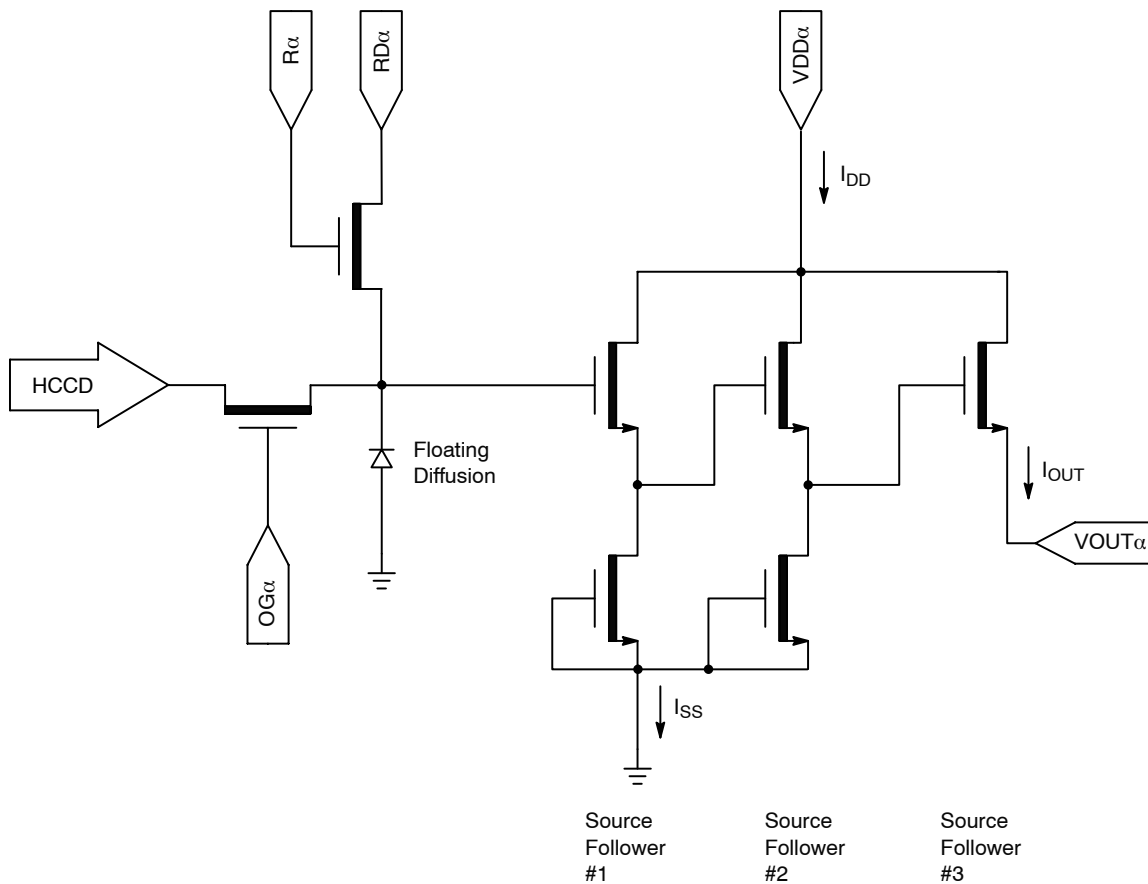

Figure 17. Output Amplifier
- The maximum DC current is for one output. $I_{DD} = I_{OUT} + I_{SS}$. See Figure 17.